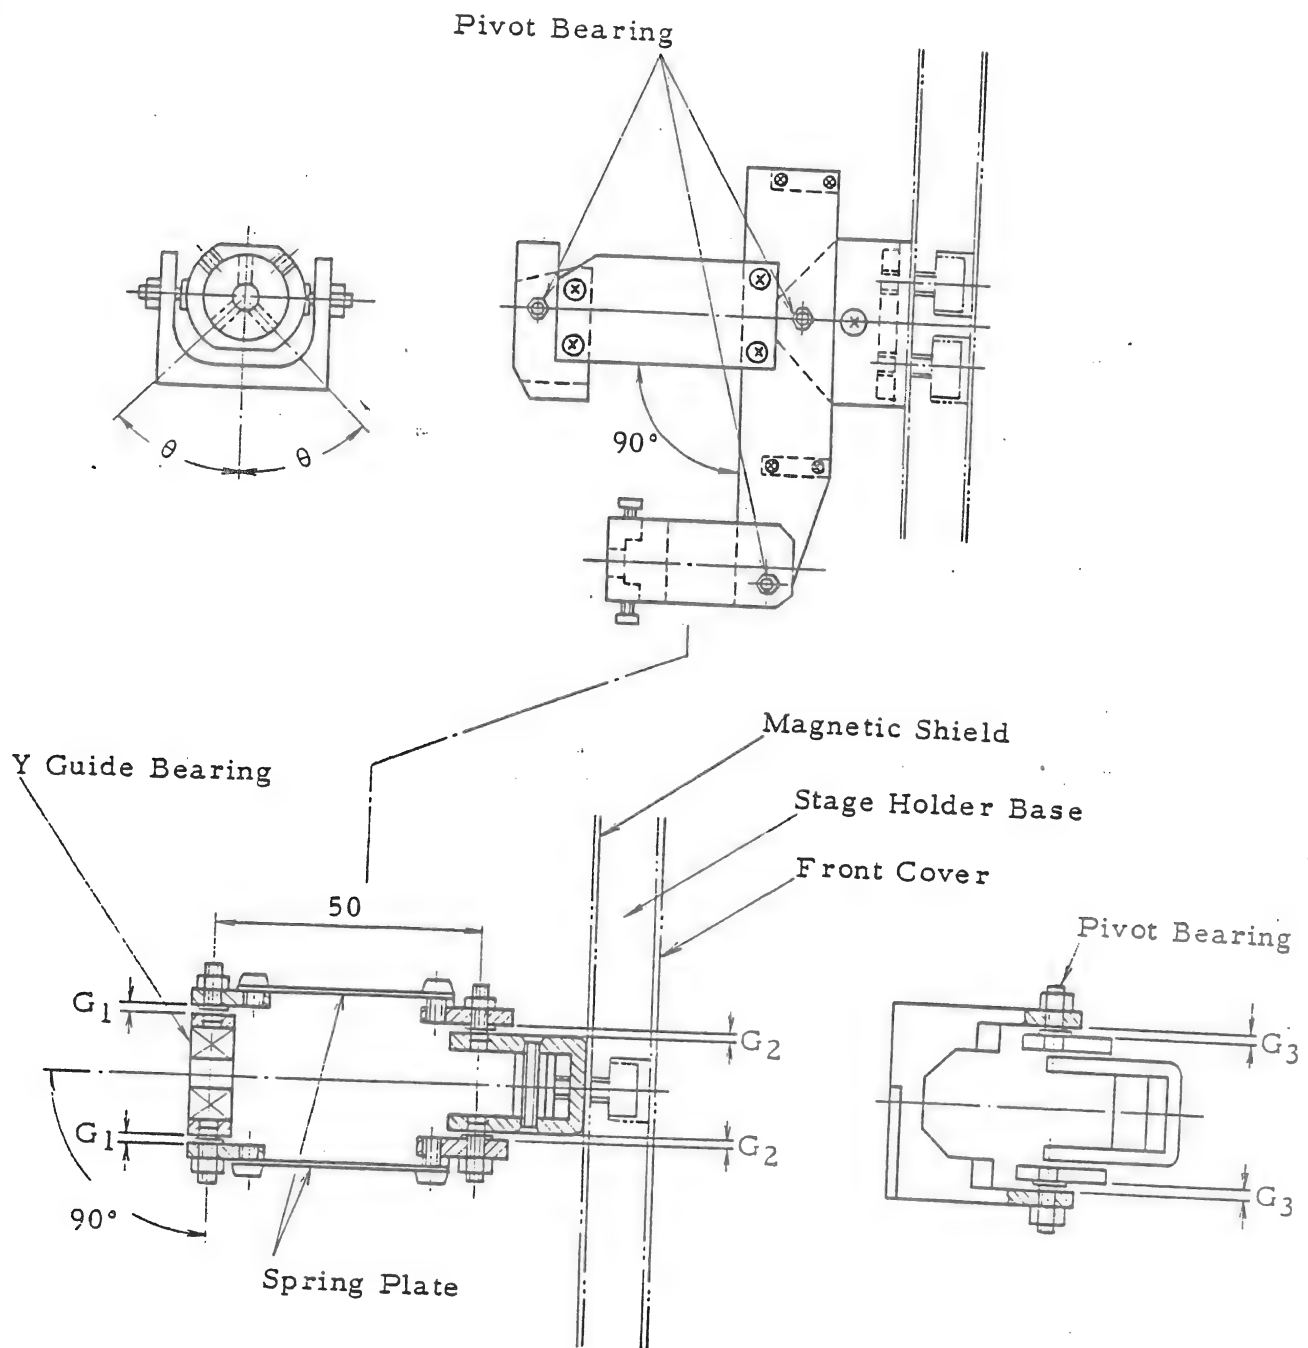

Fig. 4-21 Construction of Y-Drive Lever Assembly
- (f) Y-drive lever assembly (Fig. 4-21)